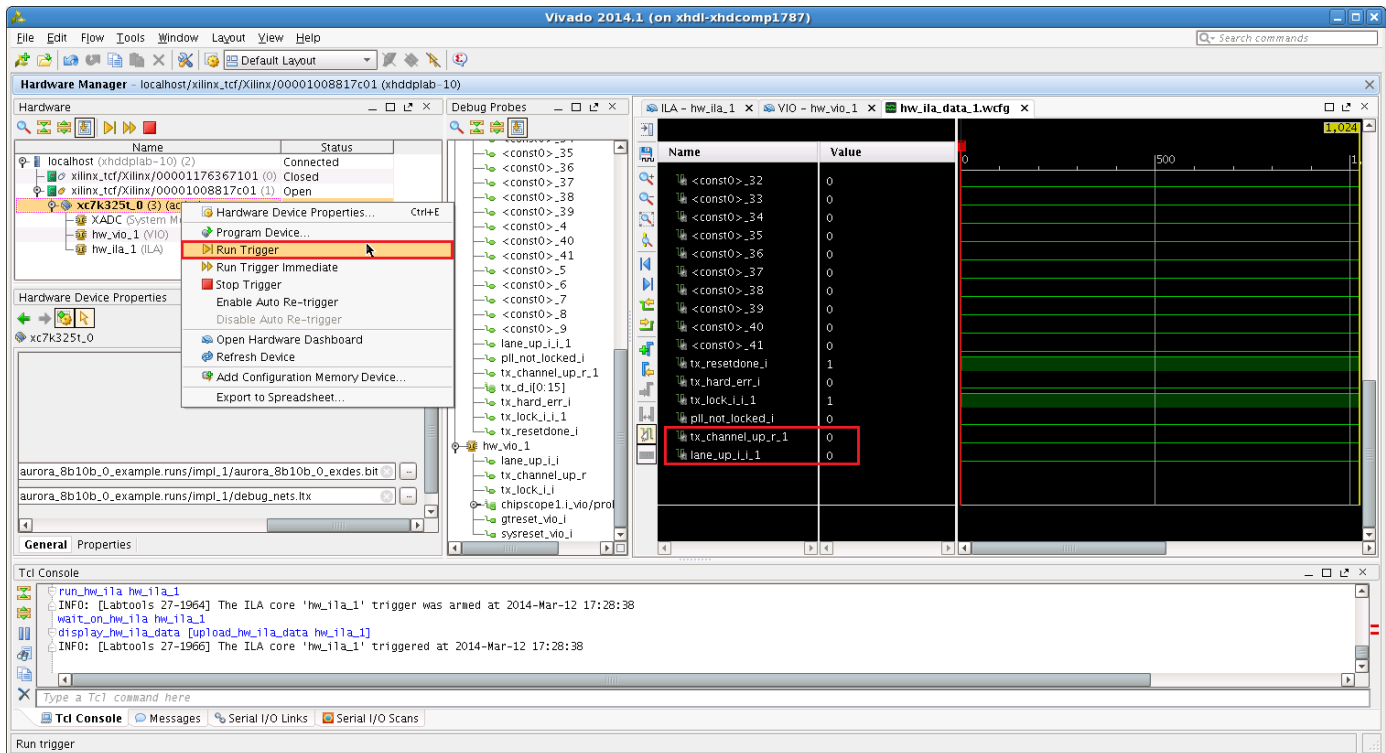

Figure 29: Reset Signal Results in Waveform
3. Click the waveform display tab and observe the results of the reset signal shown in Figure 29.